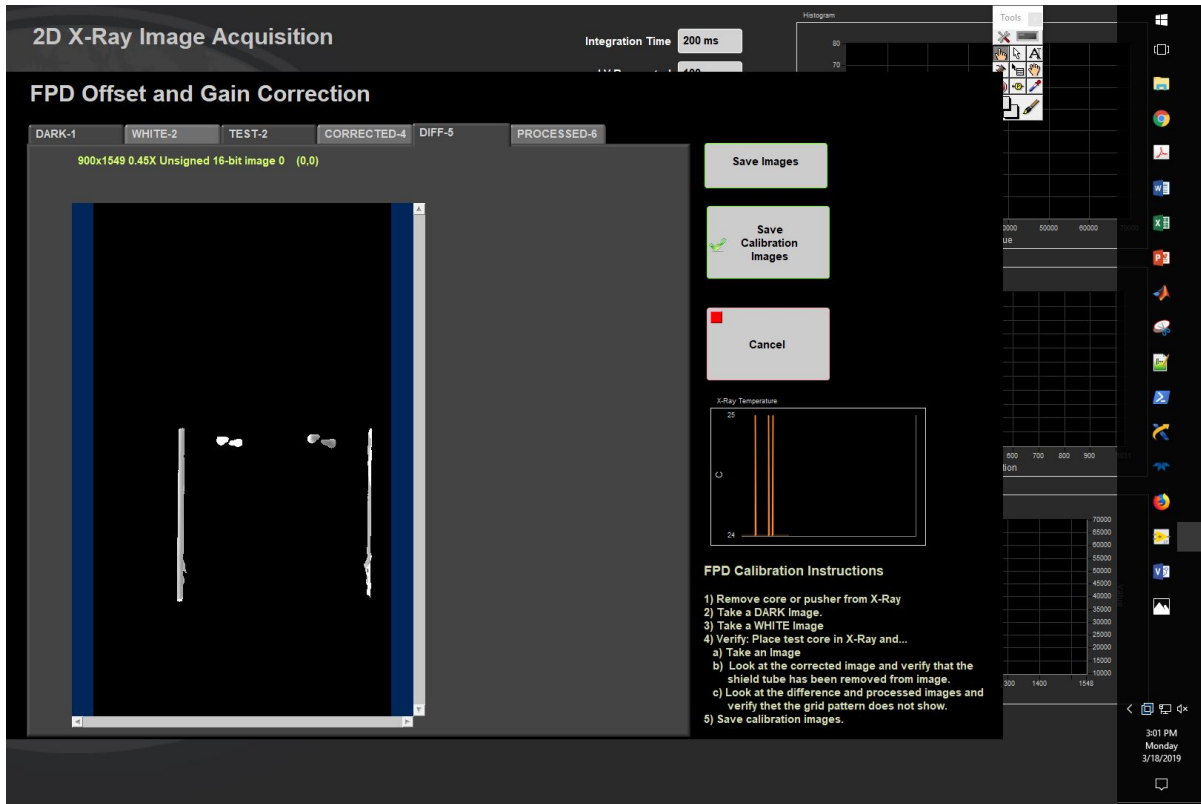

Figure 12. Difference Image Tab
6. Select the **PROCESSED-6** tab to review the automatically processed image (Figure 12).